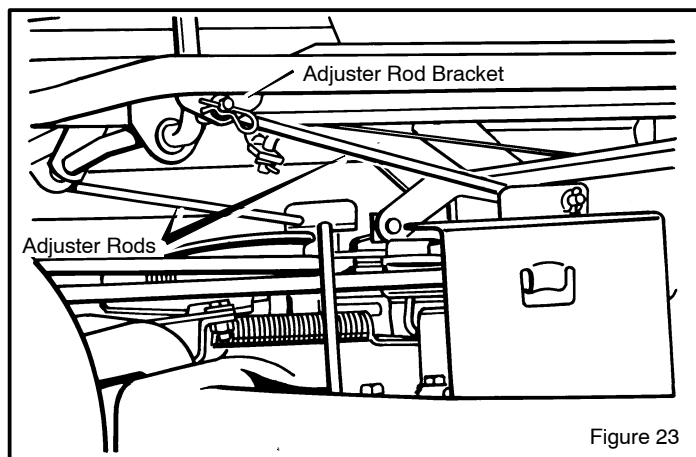

Figure 23
1. Disconnect both **adjuster rods** from the **adjuster rod brackets** (Figure 23).